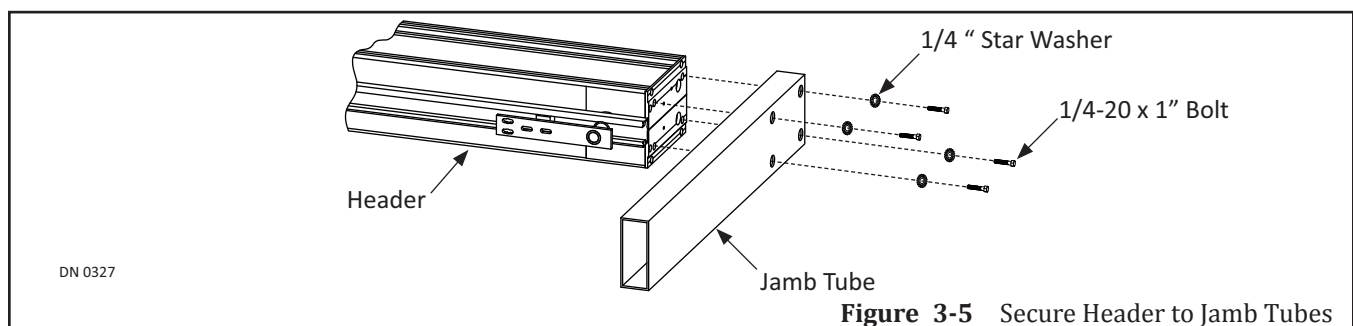

Figure 3-5 Secure Header to Jamb Tubes
4. Use a 7/16 inch Socket on a 6 inch extension to secure the Header to each Jamb Tube with (4) 1/4-20 x 3/4 inch bolts and (4) star washers that were saved. Please see Figure 3-5.